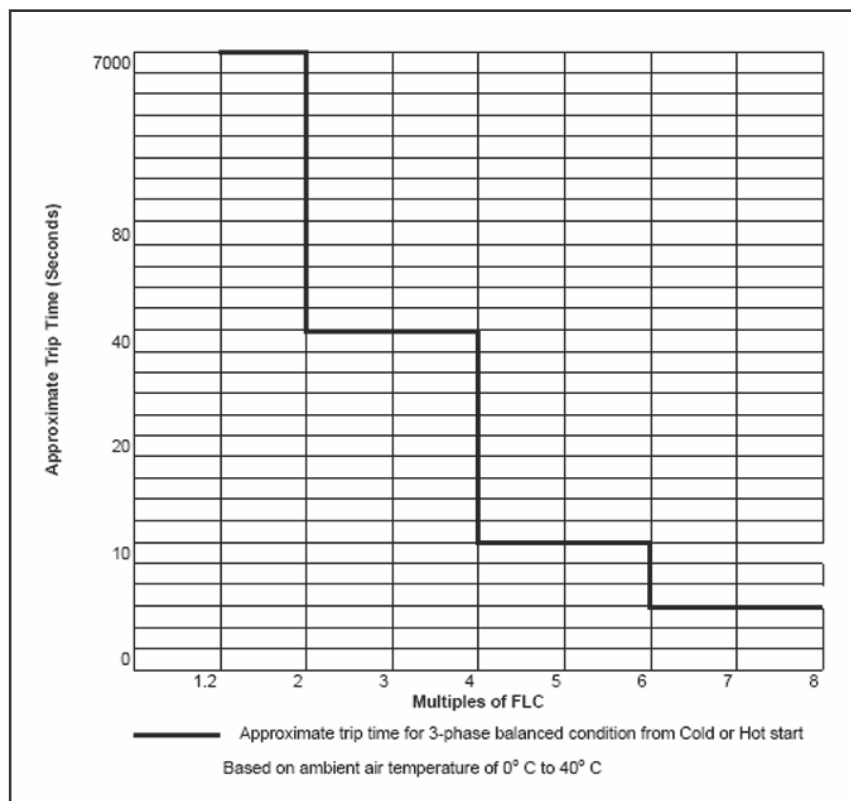

Figure 2 – Trip Curve
- The motor's FLC rating must be properly set (see Section 6.1.5) to provide overload protection. See Figure 2 for Trip Curve.